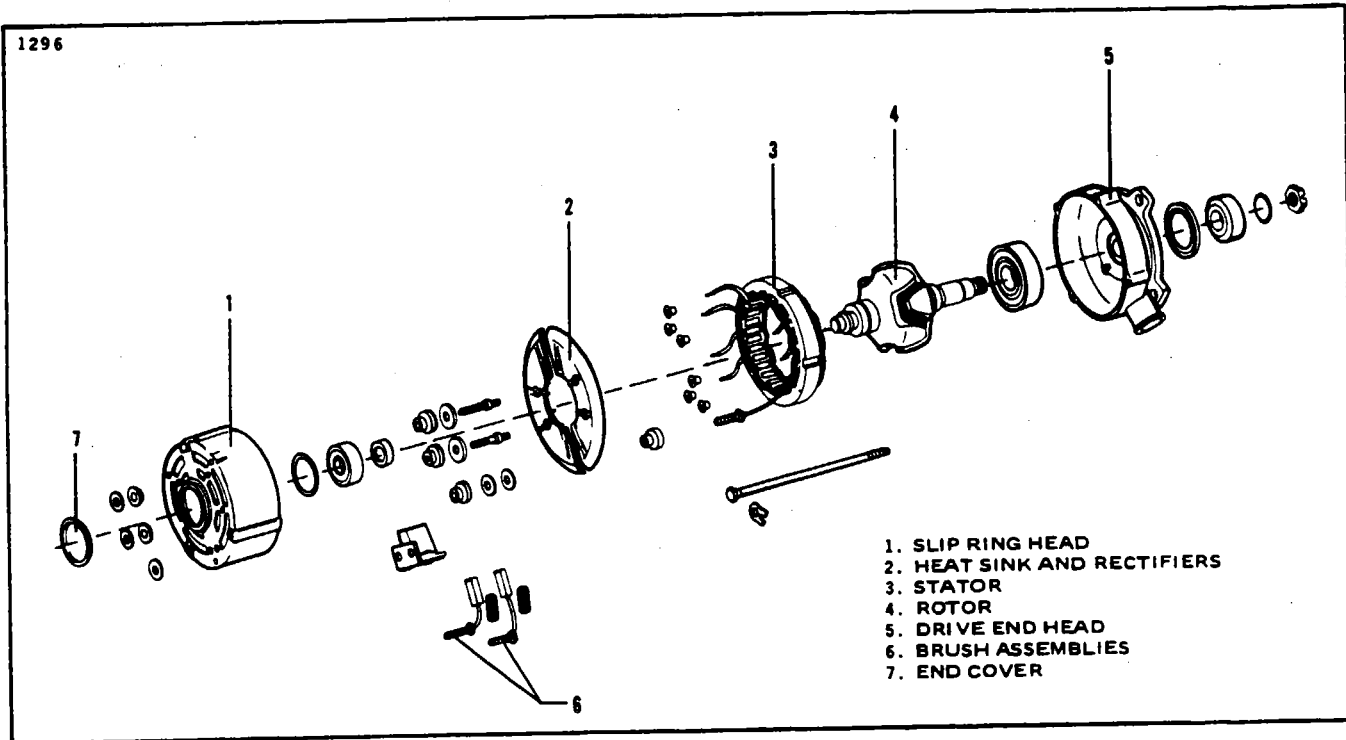

Figure 11-3. Exploded View of Alternator
11-8. DESCRIPTION OF ALTERNATOR. (Refer to Figure 11-3.) The principal components of the alternator are the slip ring head (1), the heat sink and rectifier assemblies (2), the stator (3), the rotor (4), and the drive end head assembly (5).